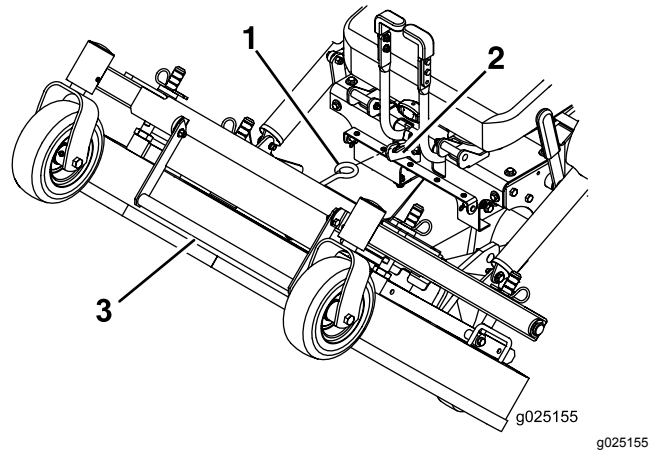

Figure 9
4. Using the deck-lift handle, lift the deck and latch it in the raised position (latch is located at front center of seat) as shown in Figure 9.
1. While firmly holding onto deck-lift handle, unhook the mower-deck latch from the machine and slowly lower the mower deck to the ground (Figure 9).